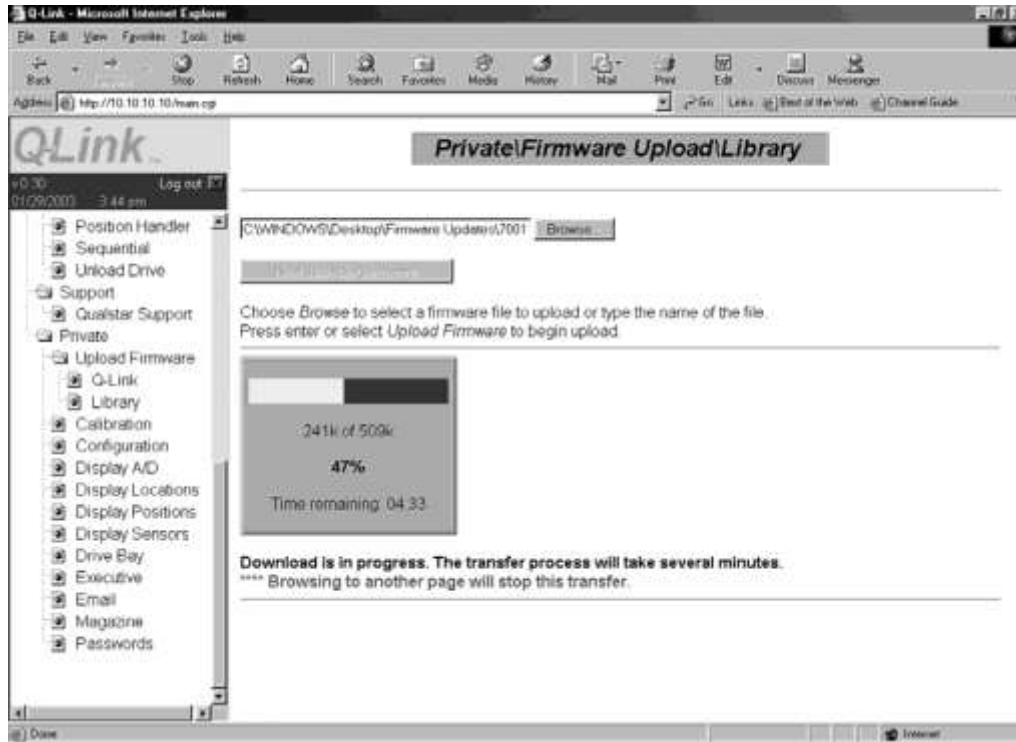
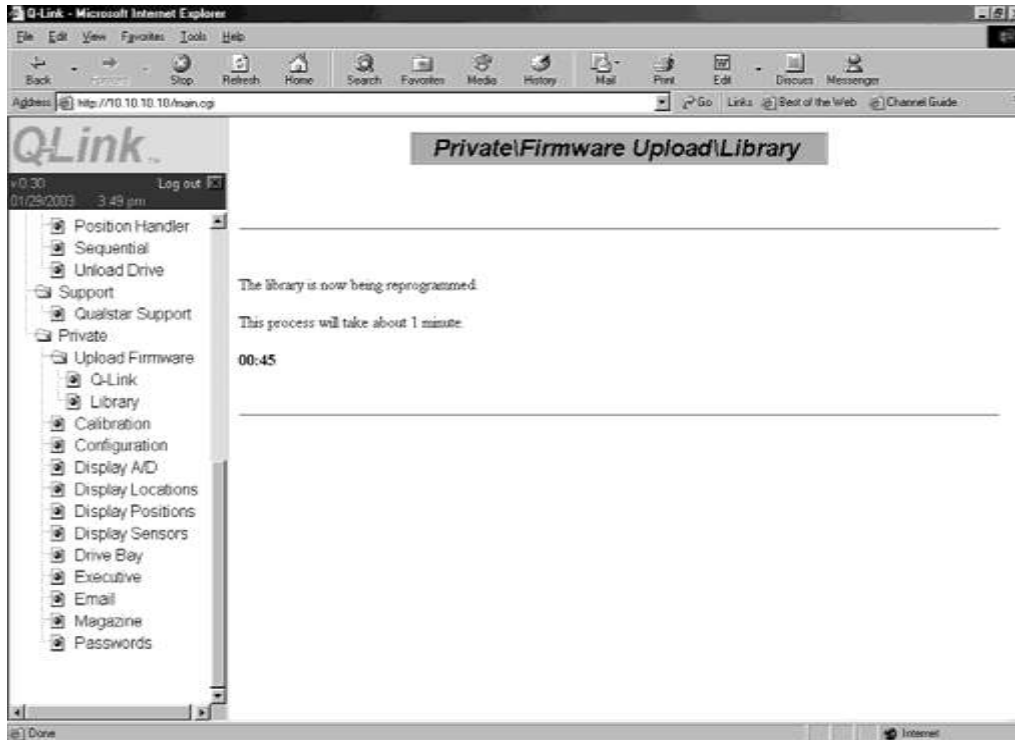

Figure 11-13 Sample of the Library Firmware Upload Progress Screen
Figure 11-14 Sample of the Library Firmware Reprogramming Progress Screen
4. Two different screens will appear as the uploading process proceeds. See Figure 11-13 and Figure 11-14.